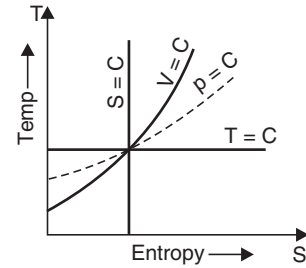

FIGURE 3.2
2. Entropy change in any thermodynamic process. Figure 3.2 shows T - S diagram for reversible adiabatic (isentropic), thermal ($T = C$), constant volume and constant pressure expansion of a gas. The entropy change per unit mass ($s_2 - s_1$) for various thermodynamic processes change per unit mass ($s_2 - s_1$) for various thermodynamic processes are: